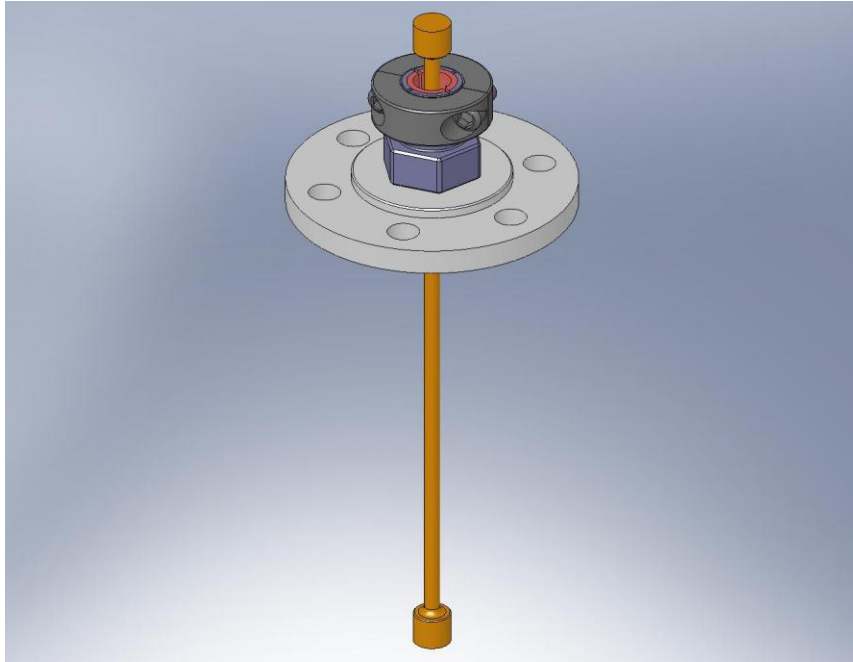
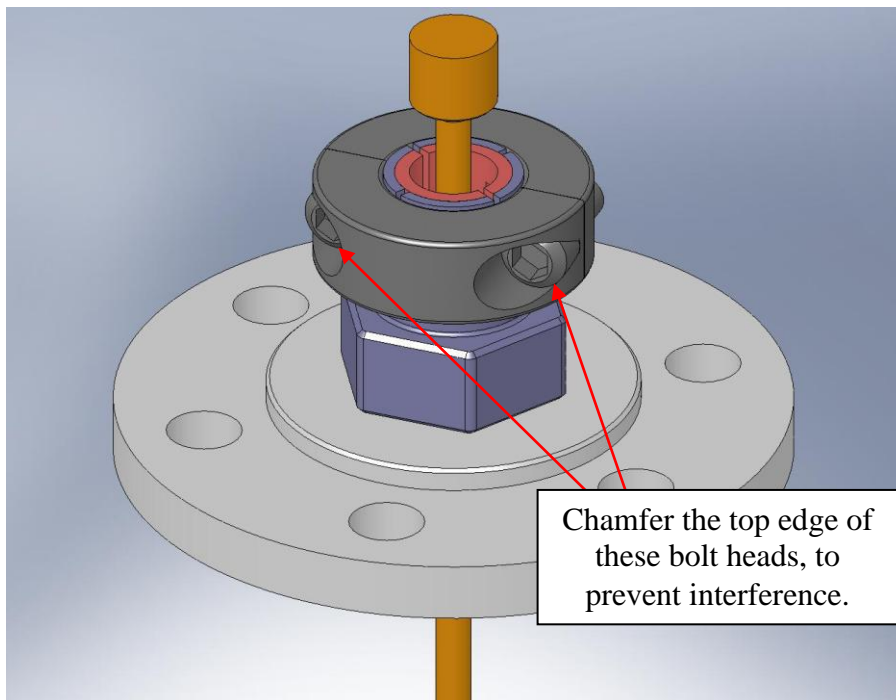

Figure 3.7. Shaft collar must be placed over the end of the Flexure Mount. Its orientation does not matter. Do not tighten the screws, yet.
Figure 3.8. The heads of the shaft collar screws must be turned down, so the bottom of the Flexure Assembly can fit inside the Flexure Post.
- Place shaft collar (McMaster-Carr #9633T15) over the collet end of the **Flexure Mount**, as shown in Figure 3.7. *The screws on these collars must be modified, to avoid interference when the **Flexures** are mounted to the **Flexure Posts** (D071074) (see Figure 3.8).*